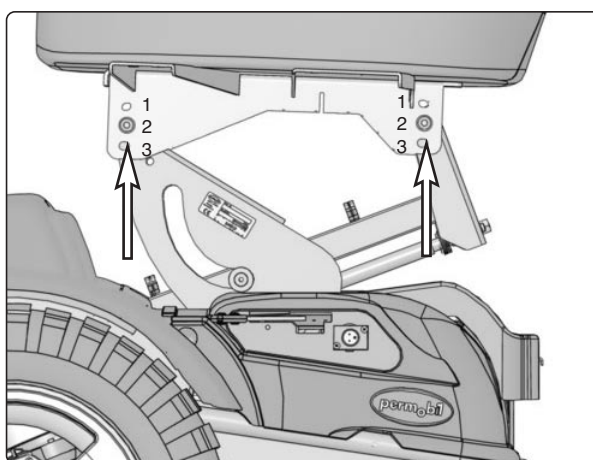

Fig. 1.
- Remove the seat, which is held in place with two screws (see fig. 1).
- Mount the seat swivel on the seat left using the accompanying screw kit. The seat swivel can be mounted at three different heights as preferred. See figs. 1 and 2.